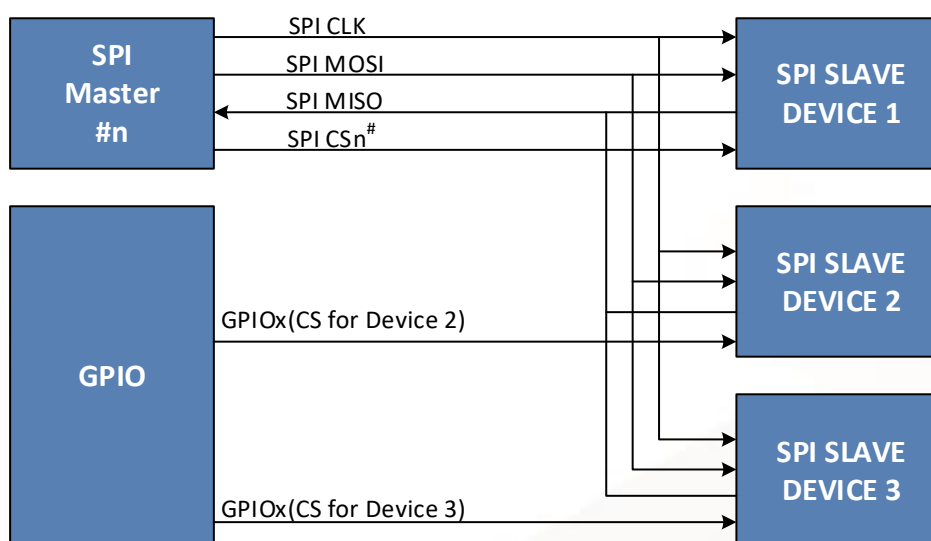

Figure 7-11. Pin Connection Between One Master and Multiple Slaves in Single Mode
- CS GPIO mode (SPI_n Base address+0x0018) [18]: The SPI_CS pin can be replaced by any GPIO pin. Software controls the GPIO pin as the SPI_CS pin, so a single SPI master can be selected and communicate with multiple SPI slaves. Figure 7-11 is the block diagram of the multi-slave topology for single mode. The CS pin for devices 2, 3, 4 and so on is replaced by the GPIO pin.